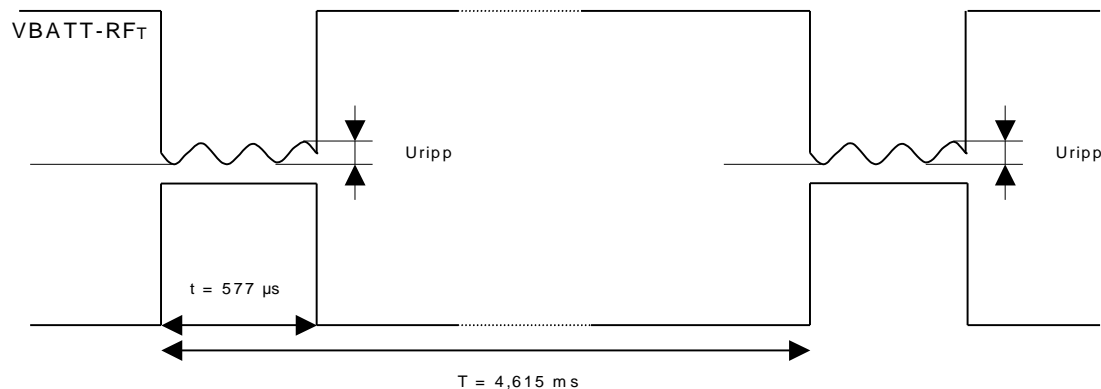

Figure 2. Power Supply During Burst Emission
- In communication mode, a GSM/GPRS class 2 terminal emits 577 μ s radio bursts every 4.615ms. (See Figure 2 below.)